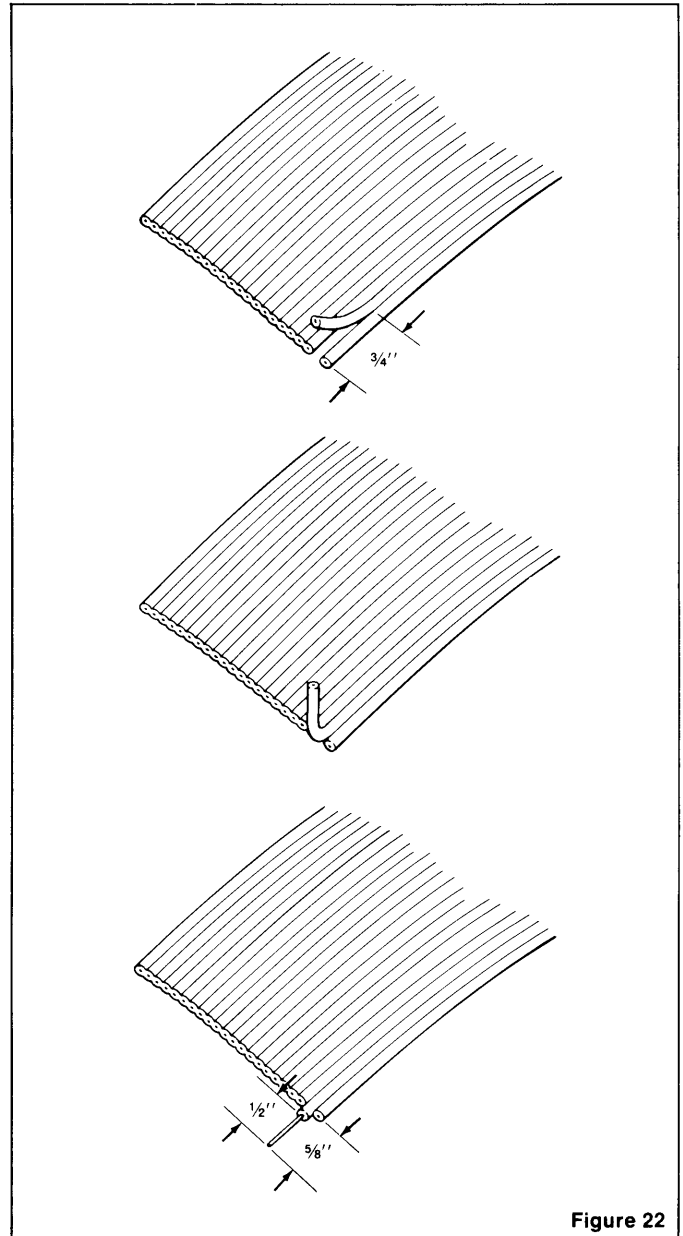

Figure 22
4. Slit 23rd conductor from red edge back $\frac{3}{4}$ " (19 mm) and lift to a 90° position. (Figure 22)